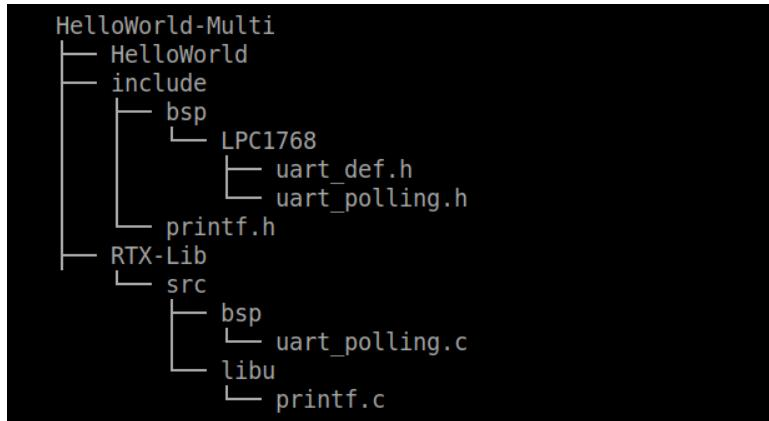

Figure 8.38: Directory Structure of a Multi-Project Workspace. The HelloWorld directory layout is omitted.
- Copy printf.c into the libu sub-folder (see Figure 8.38).
Your directory structure should look like what is shown in Figure 8.38. Note we omitted the directory layout of the HelloWorld folder.